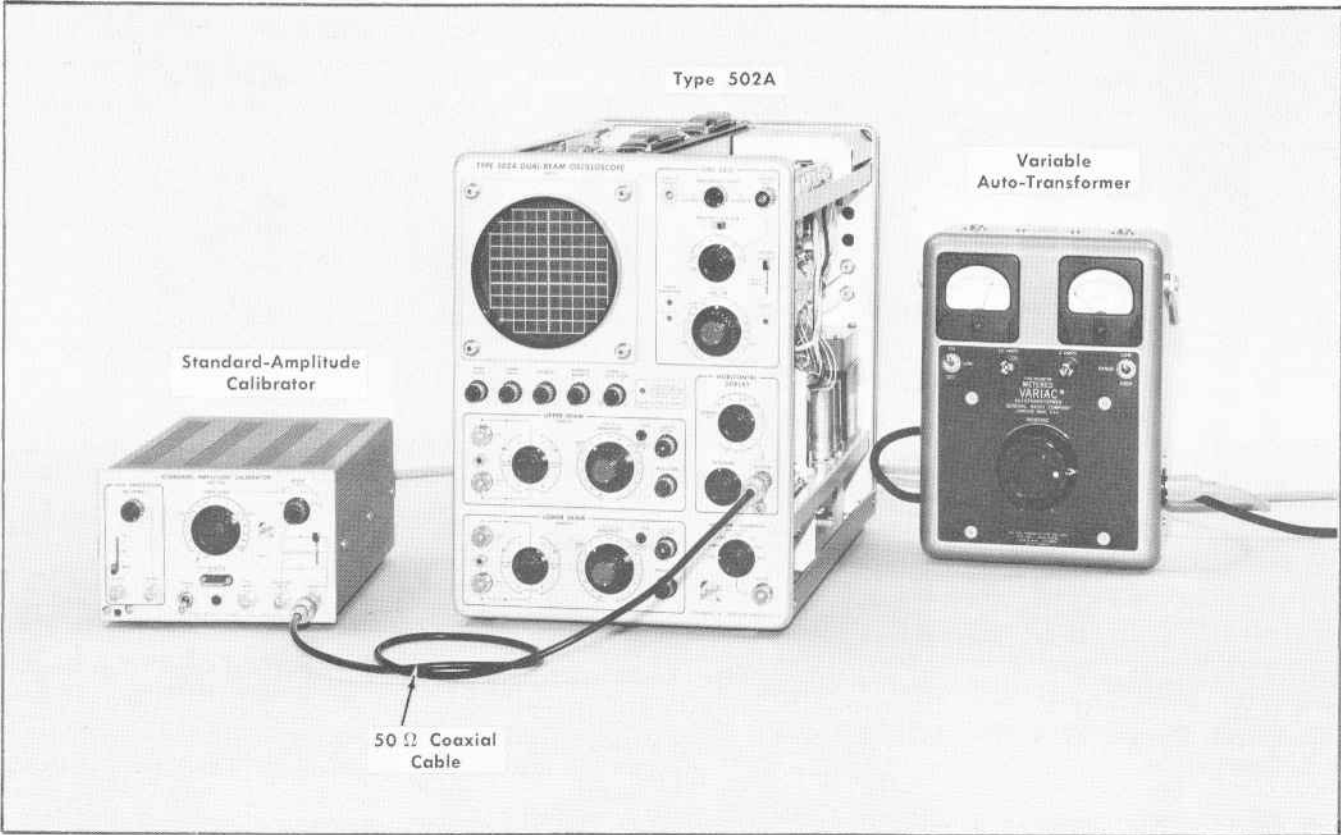

Fig. 6-16. Test equipment setup for checking External Horizontal Gain (step 16).
- a. Connect the test equipment as shown in Fig. 6-16. (It may be necessary to add a ground return between the SAC and the Type 502A.)